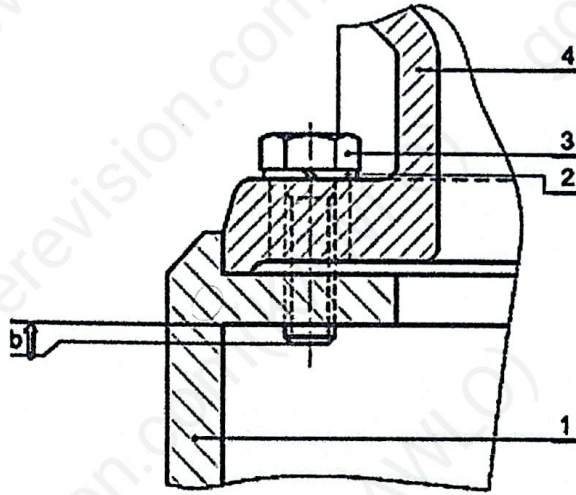

Figure 1
- 7.1 Plot the minimal chain of dimensions related to the clearance **b** as shown in **figure 1** in the answer booklet. (3 marks)
- 5.1 Plot the minimal chain of dimensions related to the clearance b as shown in **figure 1** below.